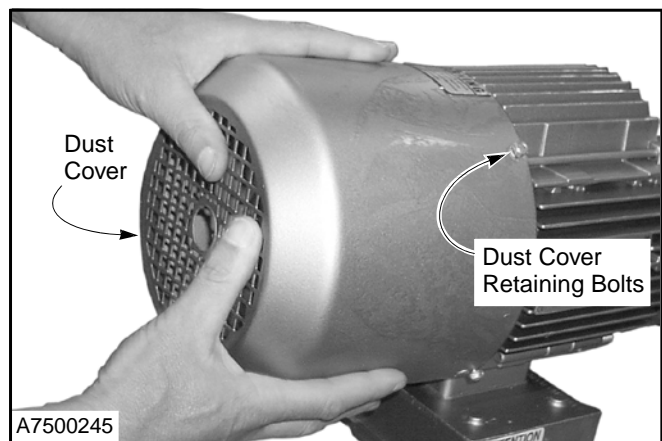

Figure 39
2. Loosen hex-head bolts retaining the dust cover to the motor assembly. Remove the cover. (See Figure 39)